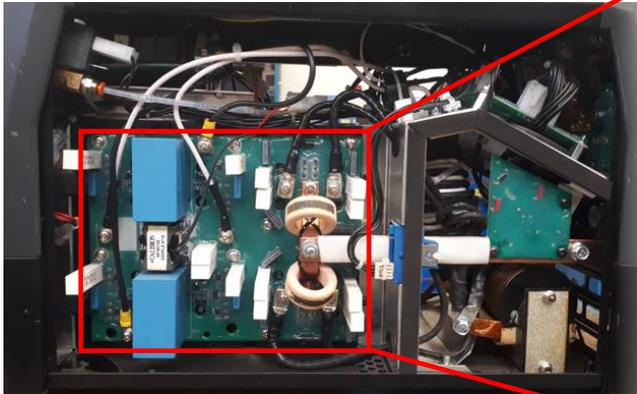

Figure 25
3. Locate the Inverter and Output Board. See **Figure 25**